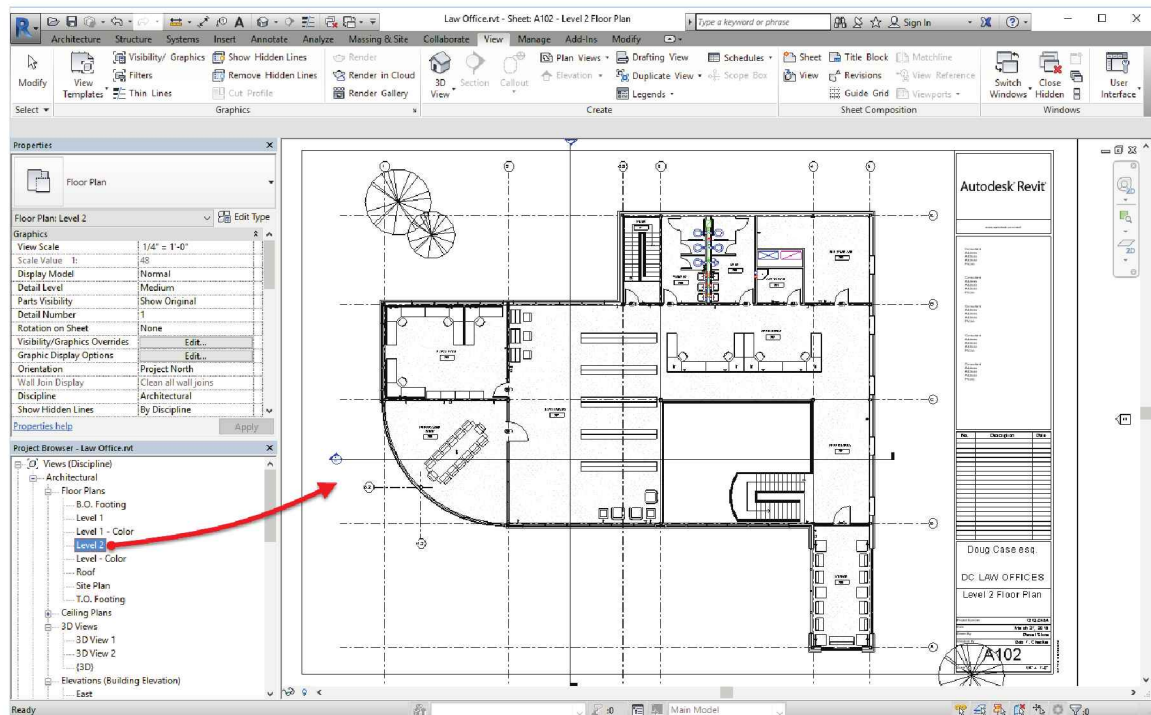

FIGURE 16-1.4 Sheet view with Level 2 added
8. With the sheet fully visible, click and drag the architectural **Level 2** view (under floor plans) from the *Project Browser* onto the sheet view (Figure 16-1.4).
Your view should look similar to **Figure 16-1.4**.